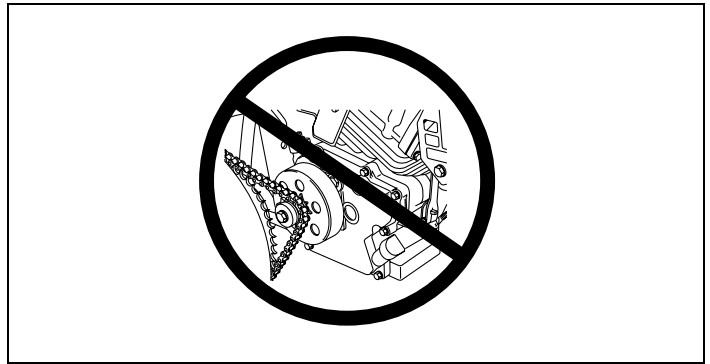
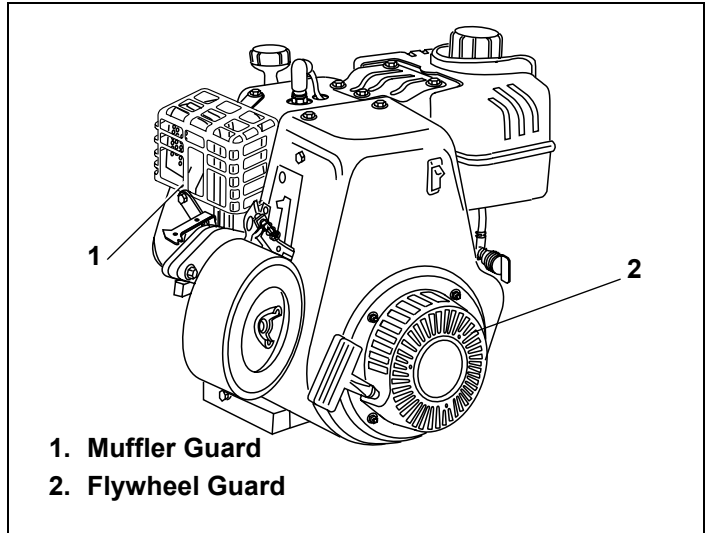

Figure 1. DO NOT Use Without Engine Shaft Guard
Figure 2. Typical Engine Guard Locations
NEVER operate the engine with an unguarded engine shaft. See Figure 1.
The equipment manufacturer may attach a sprocket and chain or pulley and belt to the engine shaft. If these parts are not properly guarded, or if you are not sure whether they are properly guarded, DO NOT use your engine; contact the equipment manufacturer. Hands, feet, hair, jewelry, clothing, etc. can become entangled in rotating parts, leading to serious injury or death. To avoid serious injury or death, be sure the flywheel guard is in place. See Figure 1. See Figure 2.
- To avoid severe burns on contact, NEVER operate the engine without the muffler guard in place, see Figure 2 and avoid hot areas of the engine.